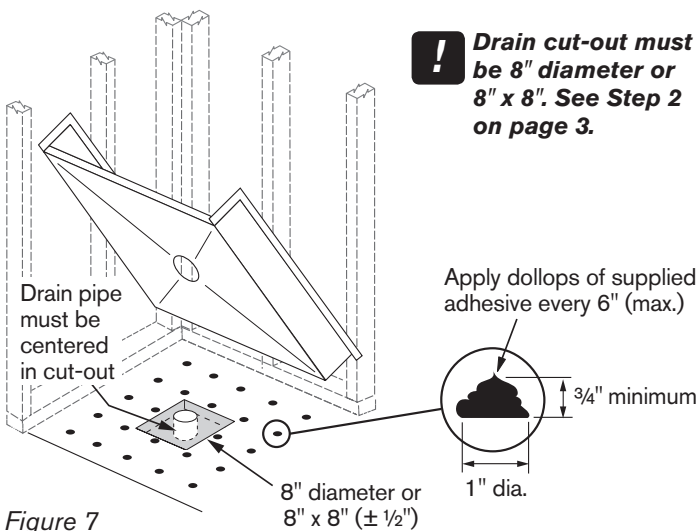

Figure 7
- 8** Place pan in pocket and prop it up while you apply supplied adhesive to the floor. Starting in a corner, apply 1" dia. x 3/4" tall dollops of supplied adhesive every 6". See below for an example of the epoxy pattern for a 63" x 37" shower. (Figures 7 and 8)